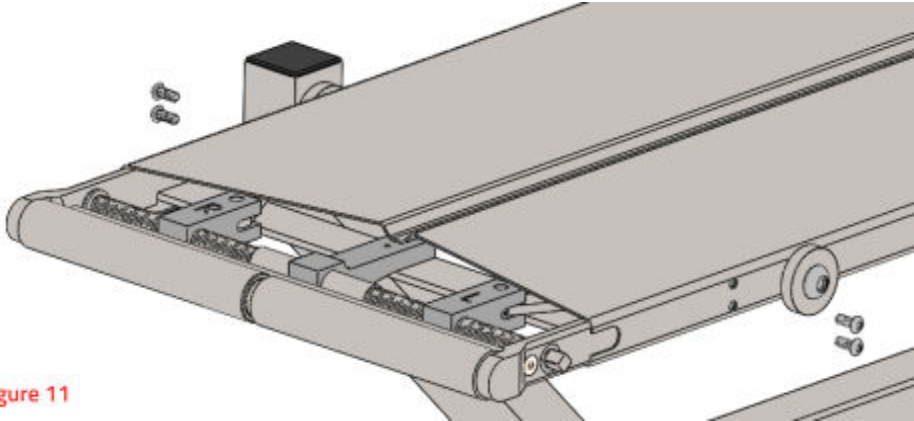

Figure 11
- 2. Remove the 4 bolts securing the tensioning assembly to the conveyor body using a 9/64 hex key. (See Figure 11)